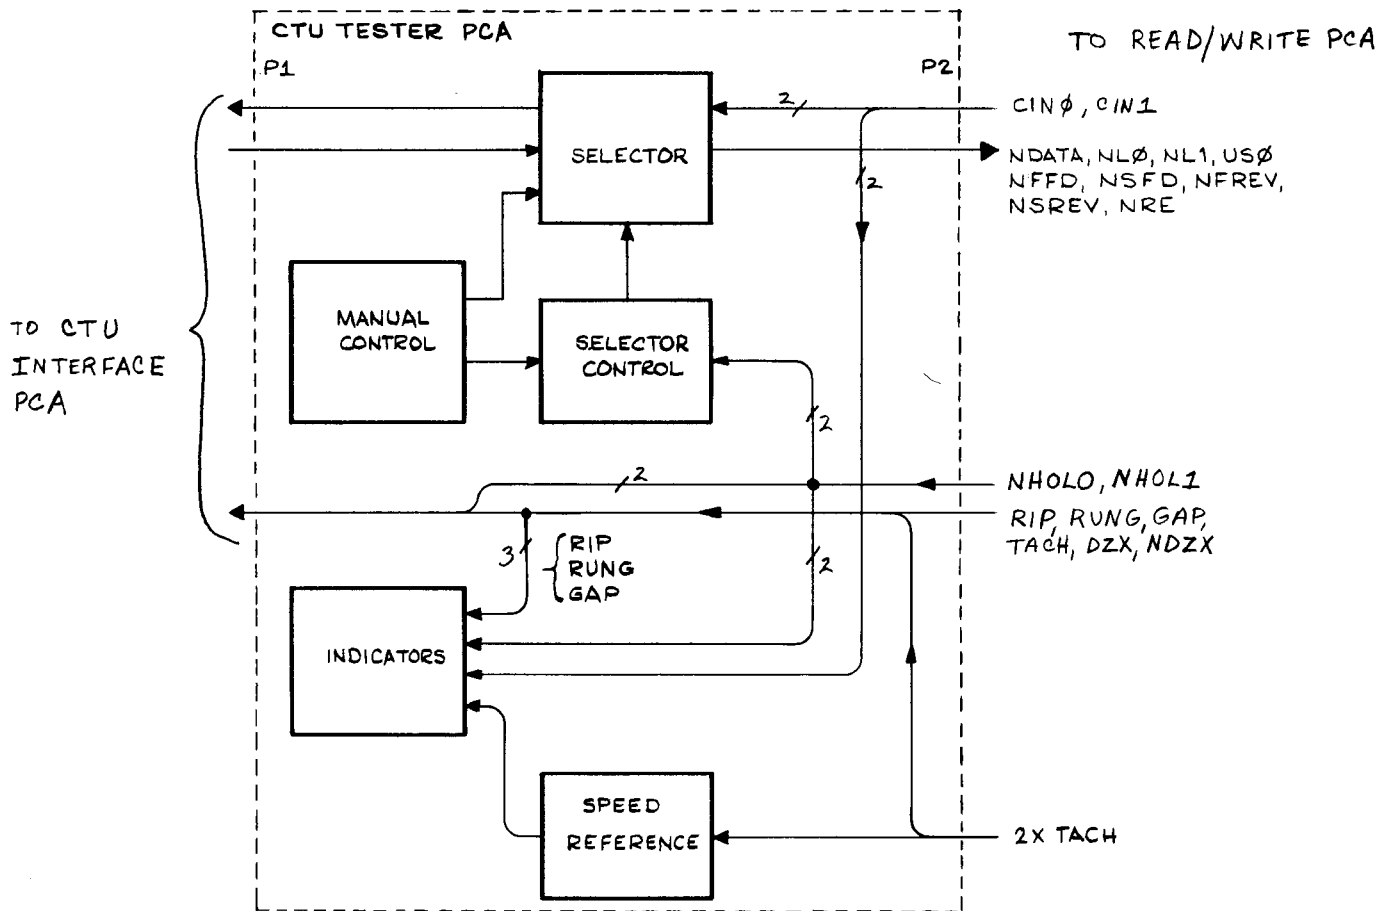
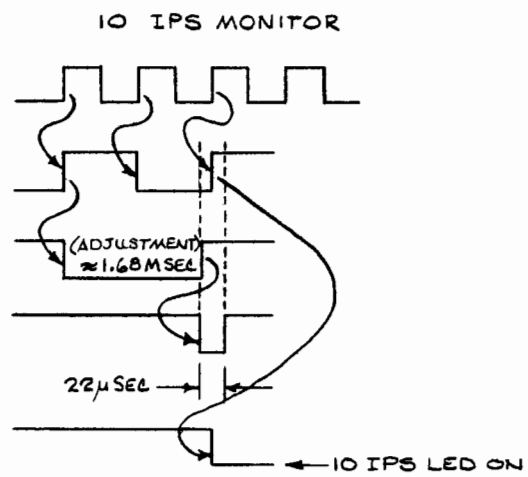
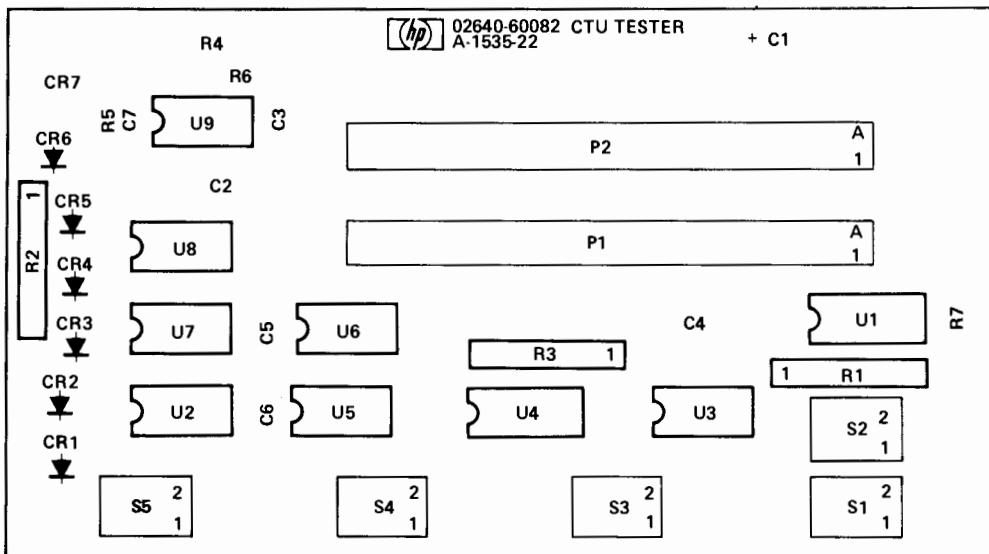

Figure 1
Figure 3
Figure 4
3.0 FUNCTIONAL DESCRIPTION. Refer to the block diagram (figure 1), schematic diagram (figure 2), timing diagram (figure 3), component location diagram (figure 4), and parts list (02640-60082) located in the appendix.